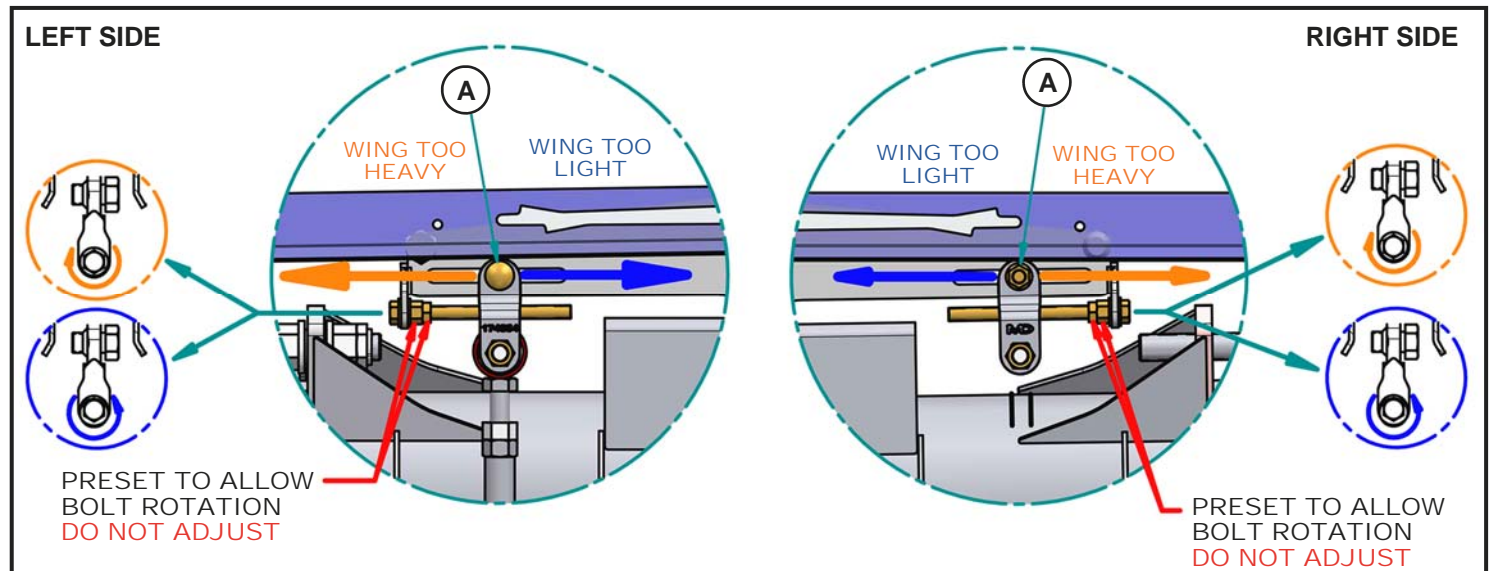

Figure 10: Wing Balance Adjustment
2. Loosen the clevis bolt (A) for the wing that requires adjustment.
3. Balance the wing according to **Figure 10: Wing Balance Adjustment** below.
4. Tighten the clevis bolt (A).